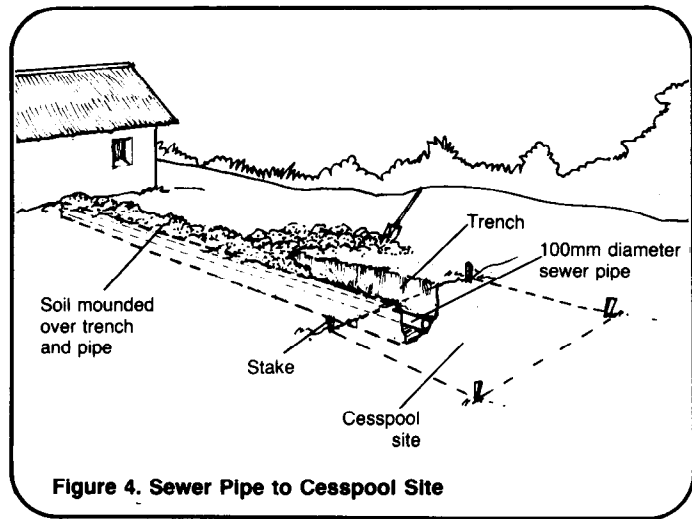

Figure 4. Sewer Pipe to Cesspool Site
4. Lay 100mm diameter vitrified clay, concrete, or plastic sewer pipe in the trench from the dwelling to the cesspool site as shown in Figure 4. Seal all pipe joints with mortar or similar material.